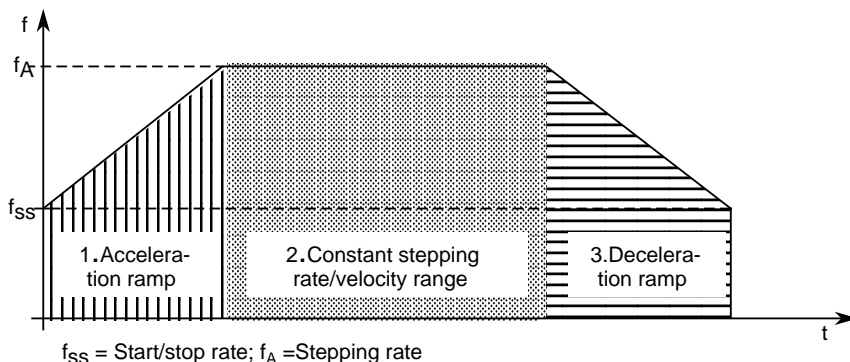

Figure 2-1. Velocity Profile of the IP 267
Stepper motors can be driven by the IP 267 from standstill with the start/stop rate f_{ss} without losing steps or coming to a standstill. The value for f_{ss} must be found specially for each plant (6.6.3). During the deceleration phase, the frequency is continuously reduced from the stepping rate f_A to the start/stop rate f_{ss} . The IP 267 cannot generate control pulses lower than the start/stop rate (Figure 2-1.).
The number of the pulses output in the acceleration range is acquired by an internal counter and used as a position setting for the deceleration range. The stepping rate is modified by the same amount in the deceleration range as in the acceleration range. This generates a symmetrical velocity profile with equal acceleration and deceleration curves (Figure 2-1.). This profile is also maintained when the traversing motion is interrupted, e.g. by limit switches (I+, I -), the STOP switch or reference point switch. Only by the emergency limit switch (PD) is a traversing motion immediately interrupted, i.e. without deceleration ramp (3.4).
2.2.4 Time Interval for Stepping Rate Increase and Rate Decrease (TI)